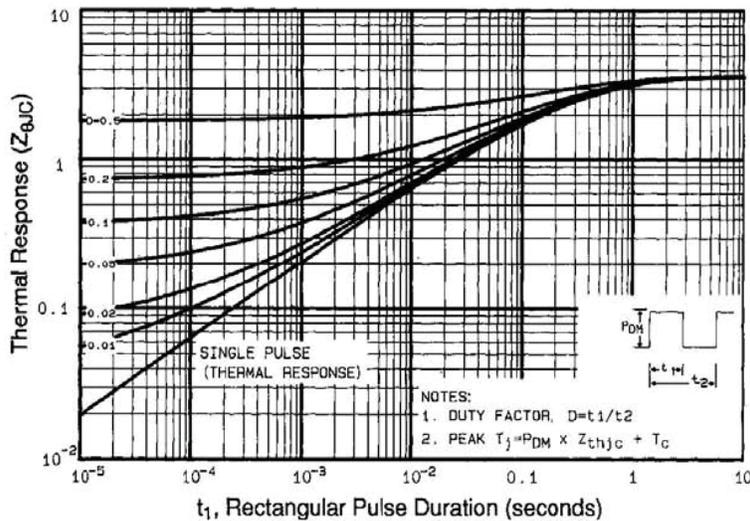

Fig. 11 - Maximum Effective Transient Thermal Impedance, Junction-to-Case
- Repetitive rating; pulse width limited by maximum junction temperature (see fig. 11)
- a. Repetitive rating; pulse width limited by maximum junction temperature (see fig. 11)